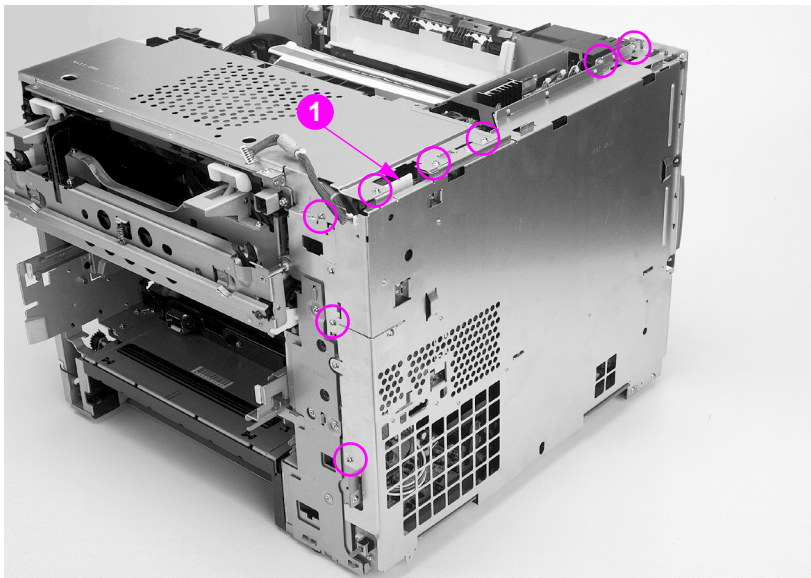
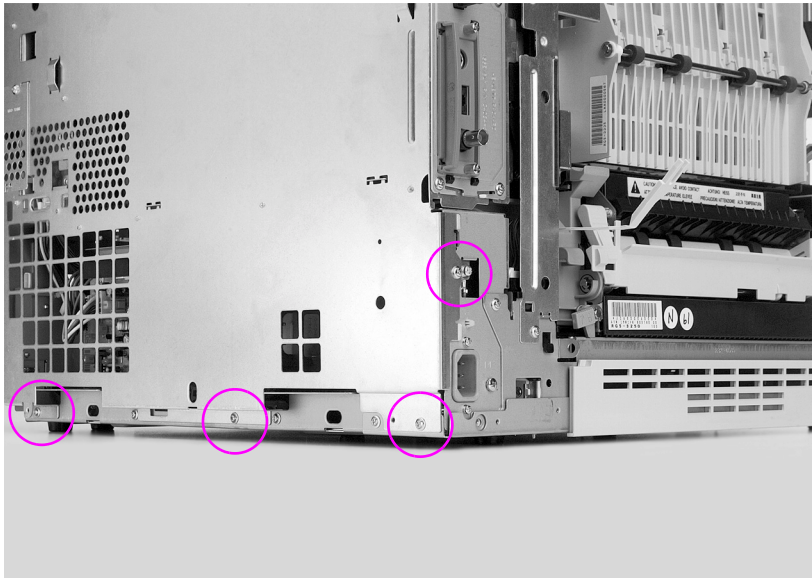

Figure 6-29 Formatter pan assembly removal and replacement (3 of 4)
Figure 6-30 Formatter pan assembly removal and replacement (4 of 4)
12 Disconnect the ribbon cable from the DC controller shown in callout 1, Figure 6-29.
Although Figure 6-29 depicts the RFI shield still installed, make sure this shield was removed at step 7.
14 Remove the screws from the formatter pan assembly (shown in Figure 6-29 and Figure 6-30).
- Be sure to reconnect the ribbon cable from the DC controller shown in callout 1, Figure 6-29.